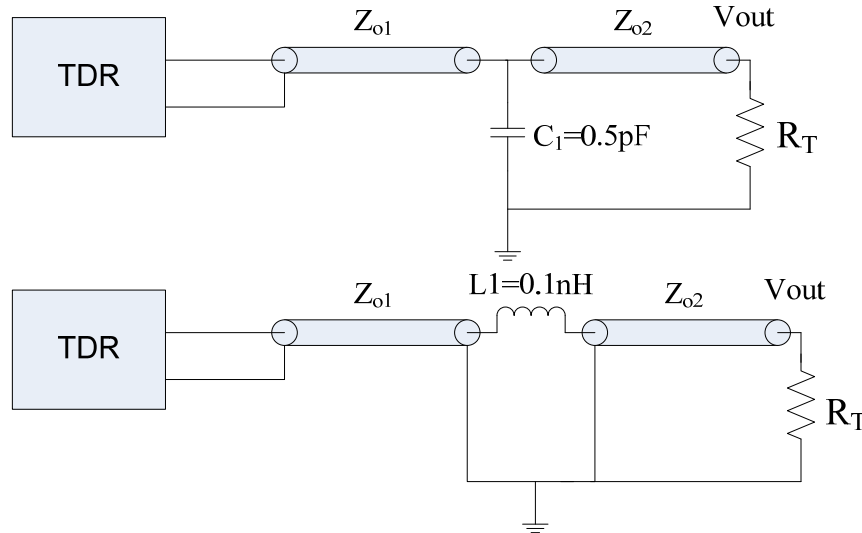

Figure 10 TDR Measurement on Lumped Discontinuities
- Please hand draw the TDR responses for the circuits shown in Figure 10 with an input step of 25ps rise time. Verify your results using Cadence. $Z_{01}=Z_{02}=R_T=50\Omega$. $T_{\text{delay}}=1\text{ns}$.